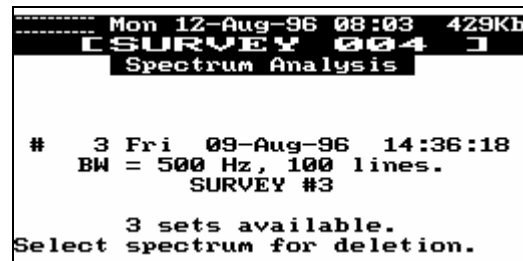

Figure 45
**7--Delete Data** From time to time it becomes necessary to remove old or faulty data sets. This is a good housekeeping practice and is most easily done by the selective deletion of data using the Delete Data function. After selecting the Delete Data menu item, press **[ENTER]**. At the bottom of the screen, the total number of data sets currently stored in memory is displayed along with the message "Select spectrum for deletion." See figure 45 below. To select another of the stored spectrum, press the **[UP]**, **[DOWN]**, **[LEFT]** or **[RIGHT ARROW]** keys.